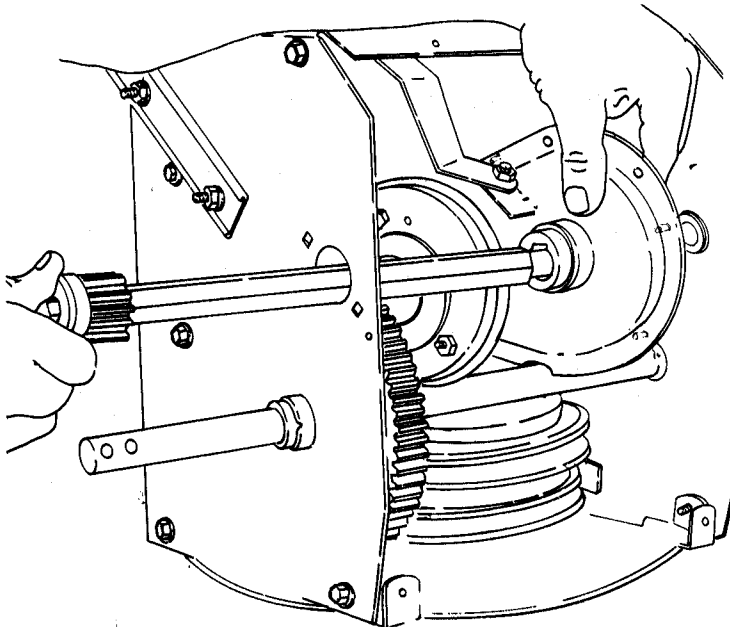

FIGURE 3.25 — PULLING HEX SHAFT
STEP 3: Pull the hex-shaft toward the left out of the frame. (Figure 3.25).